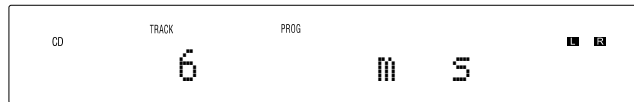

Figure 30
- Enter the first desired selection (track 6) using the Numeric Push-buttons. The Front Panel Display will first indicate track 6 followed by indicating the total number of tracks and total playback time for the current program. Refer to figures 30 and 31.